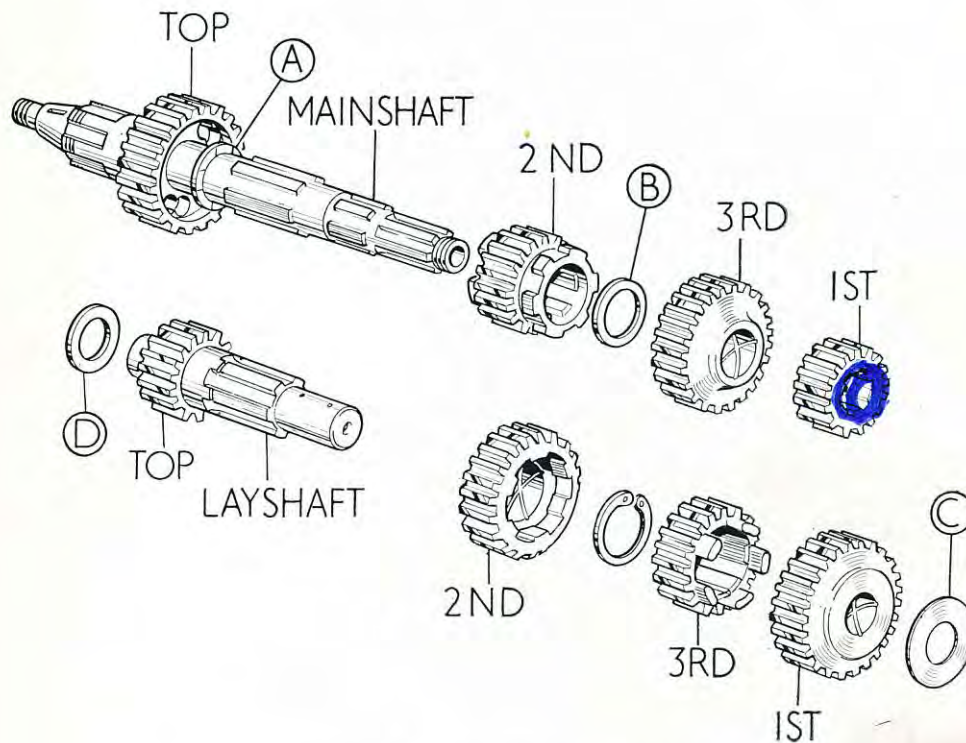

FIG. B36. Gear cluster exploded.
Holding the cover face down, place the layshaft low gear with its shim (C) Fig. B36, and sliding gear (third) in position on the cover. Fit its selector fork, the roller being located in the lower cam plate track.
A thrust washer (D) Fig. B.36 is fitted to the drive-side end of the layshaft when there should be just perceptible end float. The mainshaft, being locked to the inner cover, does not need checking for end float but excessive movement between the gears and the ends of the splines must be corrected by fitting the appropriate spacers. See Fig. B36 for position of each spacer, the thickness and part numbers of which are as follows.
- (A) .093"—.094" (40-3020);